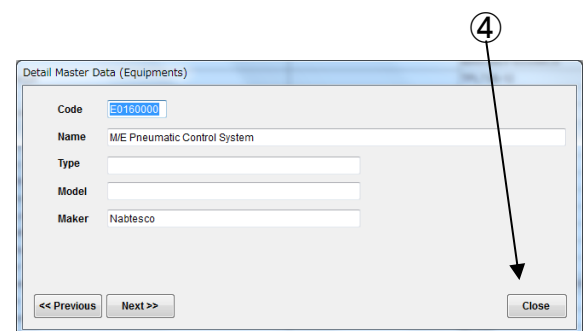

Fig.13-3 Detail Master Data Screen
- (2) Select item and “Detail Master Data” button, then “Master Dialog”(Fig.13-3) is displayed.
- (3) It is not possible to modify the data.
- (4) Select [Close] to return to “Master [Equipments] Screen”.
- (3) “Master [Stores] Screen”(Fig.13-3) is displayed. In this screen, all stores registered in master database are shown.